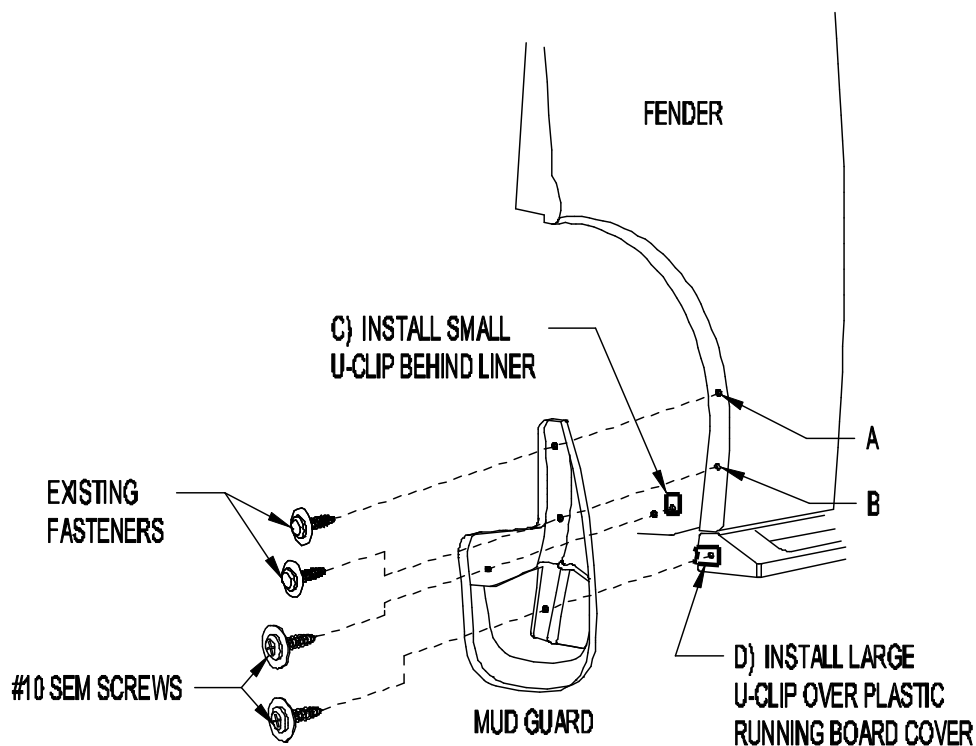

Figure 1
1. Remove existing fasteners from locations A and B (Figure 1).
4. Remove mud guard and install large u-clip at location D over running board lip and align the drilled and u-clip holes (Figure 1).
7. Install #10 SEM screw at location C, thru mud guard, fender liner and into a **small u-clip** behind liner. **NOTE:** The small u-clip is used like a nut and DOES NOT clip over fender liner (Figure 1 and 2).